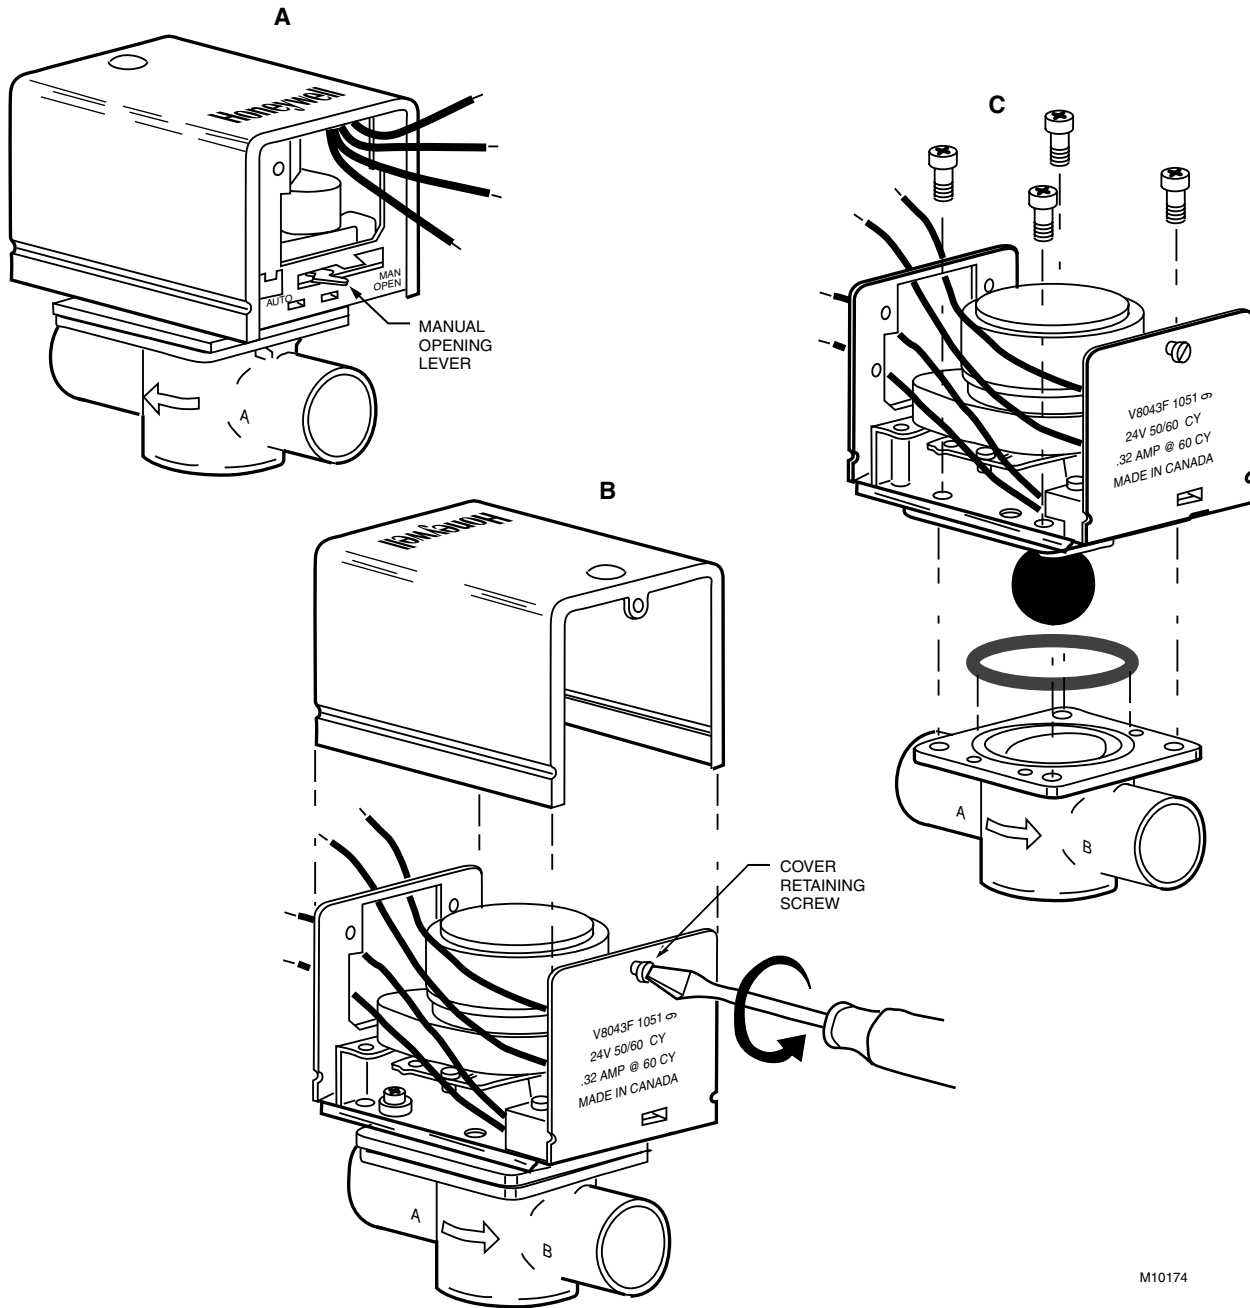

Fig. 10. Remove old powerhead from systems using old style valve bodies.
- ① Disconnect the power supply before connecting the wiring to prevent electrical shock or equipment damage.
- ② Disconnect the leadwires to the powerhead at the terminal block or conduit connection. Remove the conduit or cable connector if fitted. Label each wire for rewiring later.
- ③ Drain the water from the system.
- ④ Remove the old powerhead from the valve body (Fig. 10):